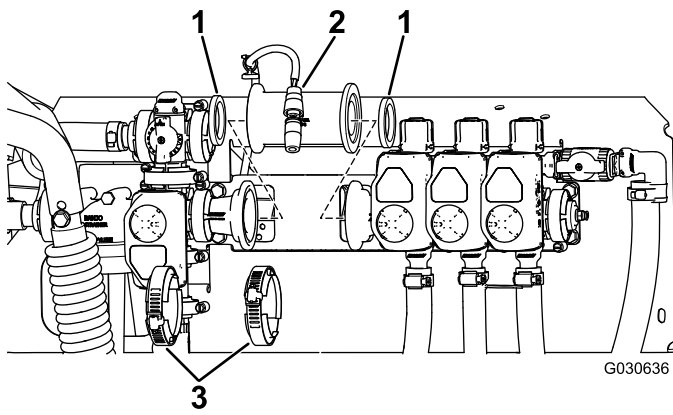

Figure 6
- Install the flowmeter in-line between the KZ and boom valve assemblies with the flow arrow pointing toward the 3 boom valves (Figure 6).
- Install the existing gasket into the flowmeter side that mates with the KZ valve (Figure 6).